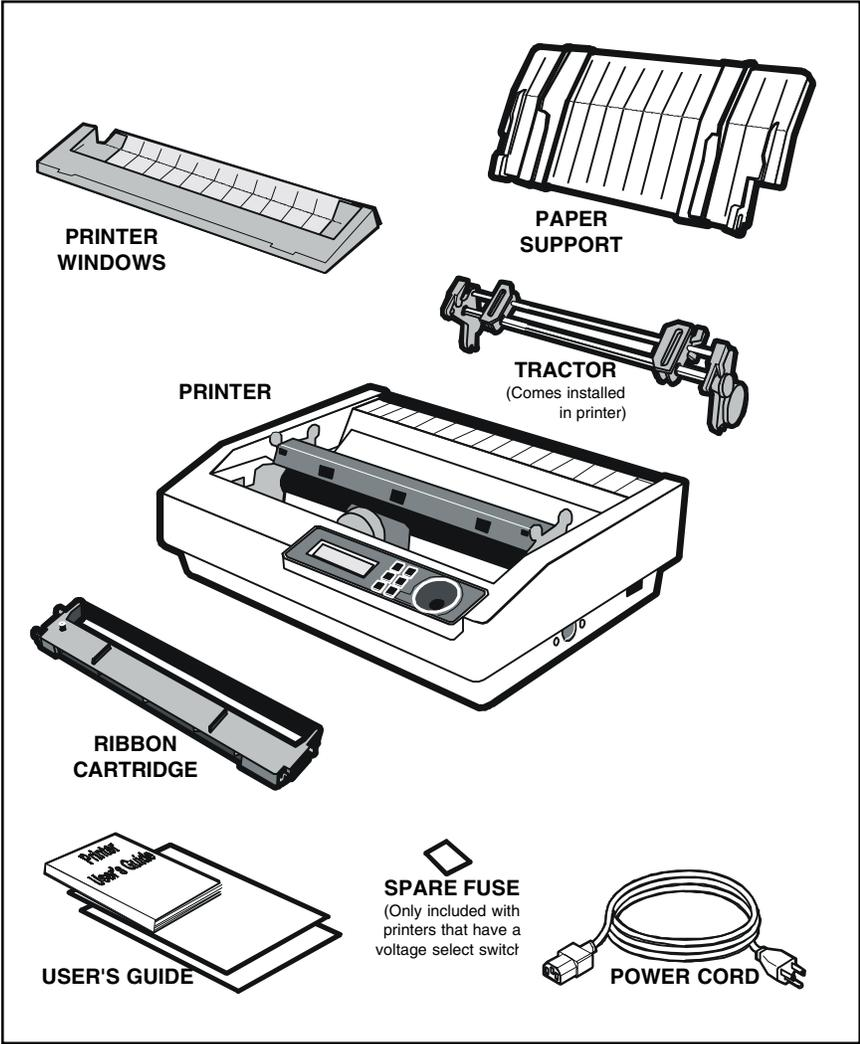

Figure 1-1. Unpacking the Printer
6. Verify that you have all of the items shown in figure 1-1. If anything is missing or damaged, contact the distributor that sold you the printer.